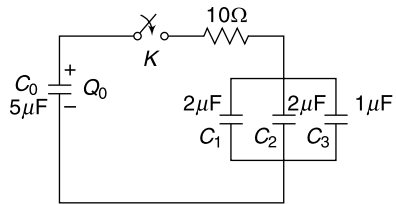

Fig. 2.49 Circuit of Ex. 2.36
2.36 A $5 \mu\text{F}$ capacitor is initially charged with $500 \mu\text{C}$. At $t = 0$, the switch K is closed (Fig. 2.49). Determine the voltage drop across the resistor at $t < T$ and $t = \infty$.